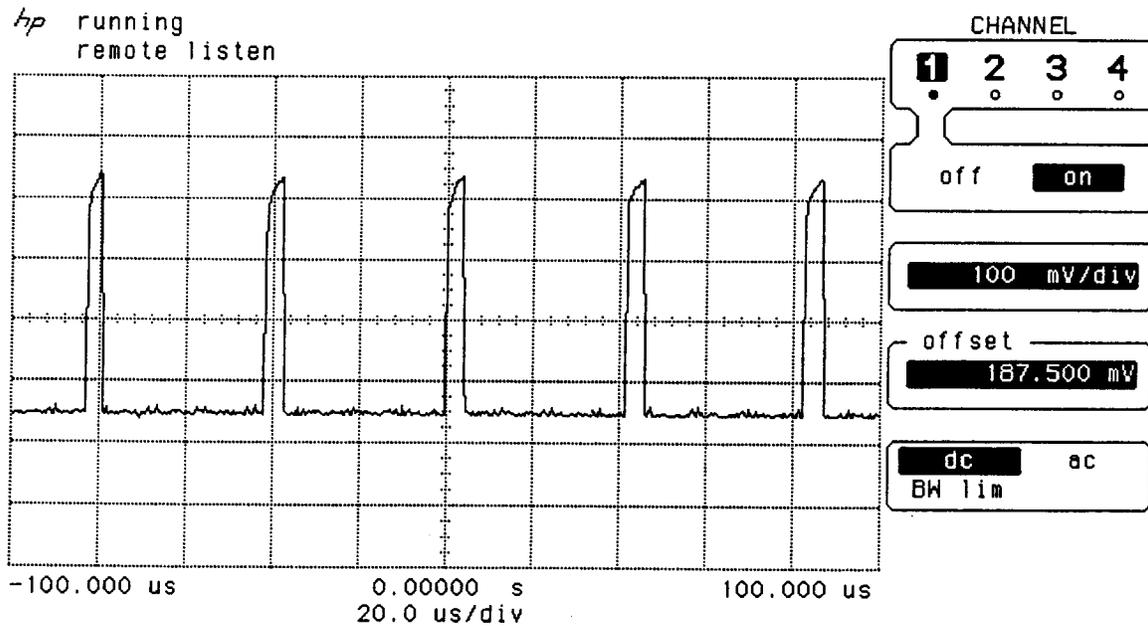

Figure 4-17. Horizontal Sync Signal (Frequency is 24.1 kHz)
8. Verify that the CRT sync signals (Horizontal Sync, Vertical Sync) which are generated by A3 CPU Assembly are similar to Figures 4-17 and 4-18.